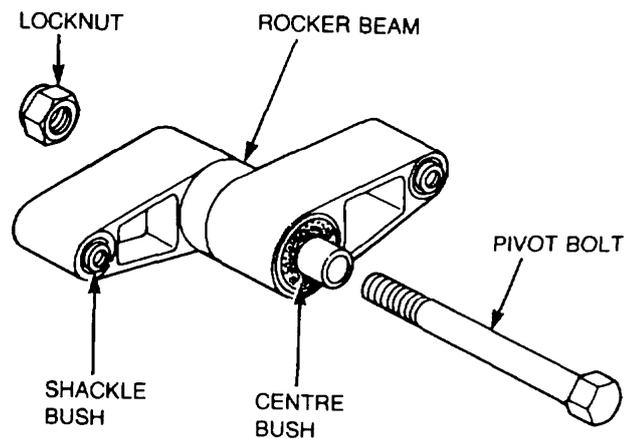

Figure 158 Rocker Beam Removal
- b. Remove the locknut from the pivot bolt (Figure 158).